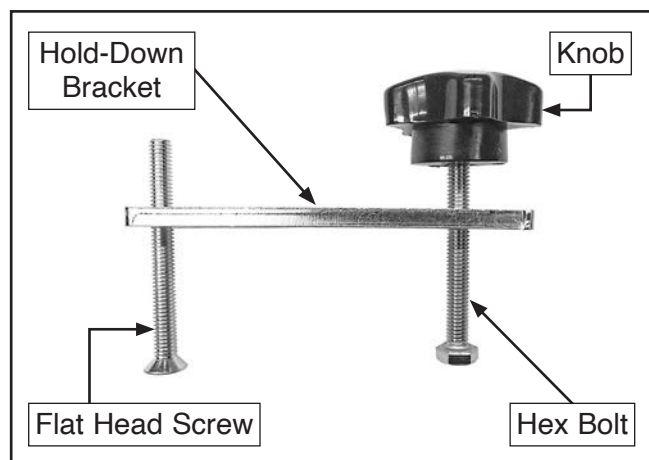

Figure 43. Hold-down clamp components.
2. Thread (1) M6-1 x 60 flat head screw into hold-down bracket, then insert (1) M6-1 x 70 hex bolt through hold-down bracket and thread on (1) M6-1 knob (see **Figure 43**).